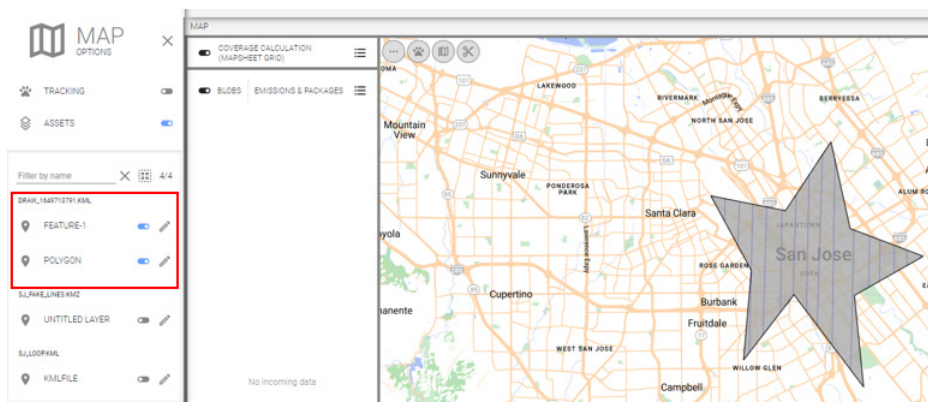

Figure 92 Rename Asset Layer/KML File
- 4 To rename each asset layer and/or the KML file, click the **Pencil** icon (see Figure 92).